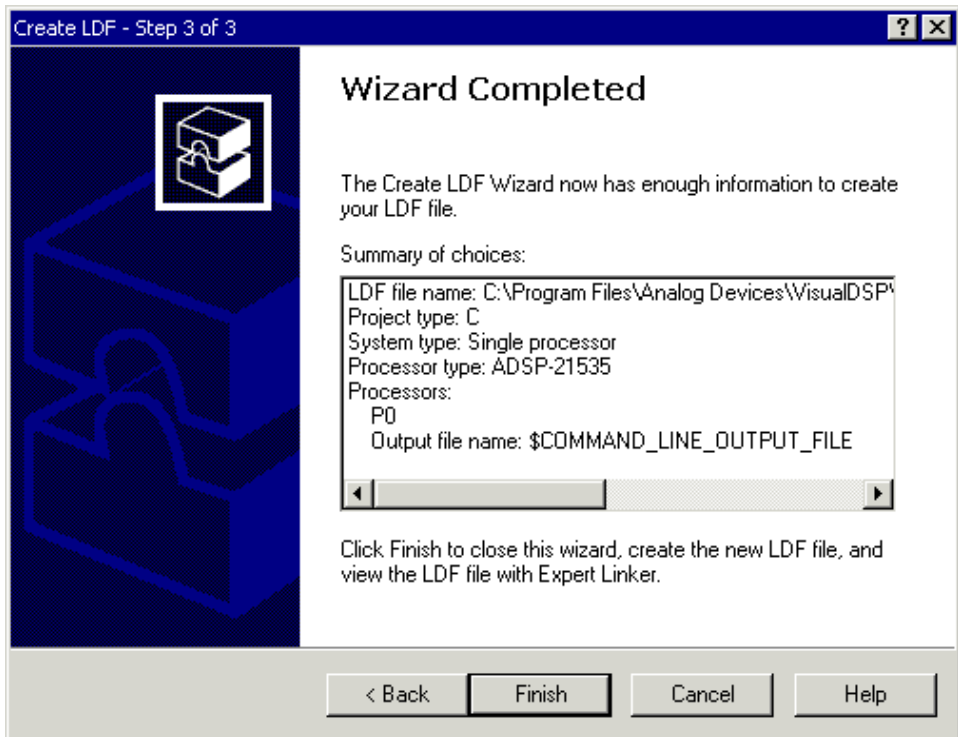

Figure 2-17. Create LDF – Step 3 of 3 Page
4. Accept the default values and click **Next** to display the **Create LDF – Step 3 of 3** page, shown in Figure 2-17 on page 2-25.